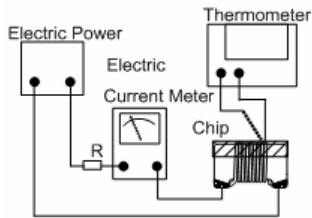

Fig. 6.3.4-1
- d. Definition of Rated Current (I_{rms}): I_{rms} is direct electric current as chip surface temperature rose just **40°C** against chip initial surface temperature (T_a) (see **Fig. 6.3.4-2**).